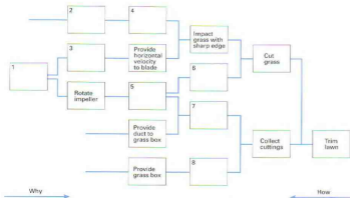

Fig. 2 Functional Analysis System Technique (FAST) diagram
- 15 The designer's goal is to get it right first time. To do this a design process must be used which is effective at producing a good design. An important tool in the design process is the Functional Analysis System Technique (FAST) diagram. This enables the designer to understand the functional relationships of the system being designed. The example illustrated (Fig. 2) shows the technique applied to the design of a lawn-mower.